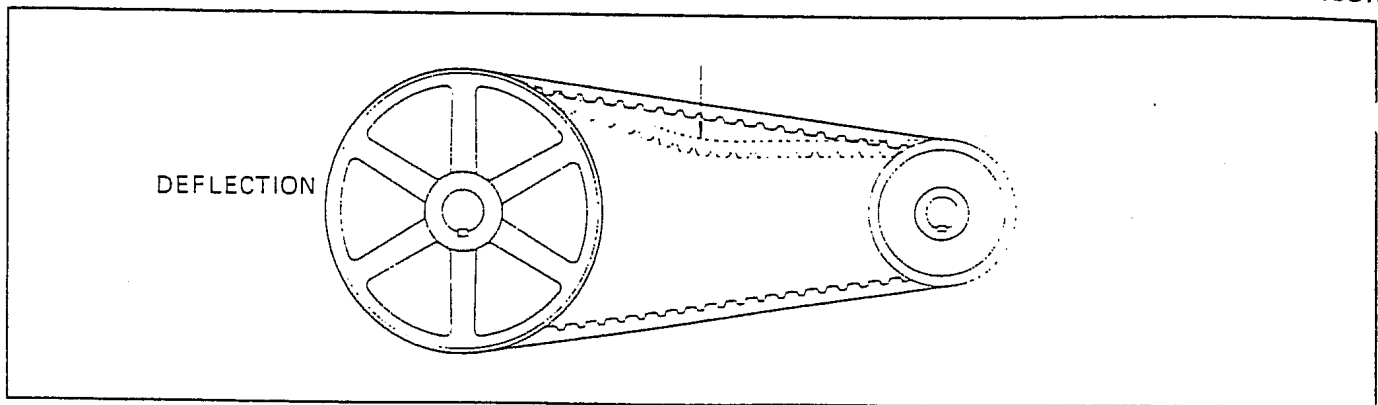

Figure 6-1 Tension Check
6.2.1 DRIVE BELT ADJUSTMENTS. The proper belt tension produces a 0.22 inch deflection when a 6-8 pound weight is applied at midspan. See Fig. 6-1. A loose belt can cause excessive vibration and slippage. Too tight an adjustment can cause premature bearing failure. Replace the belt when there is evidence of fraying or lamination separation.